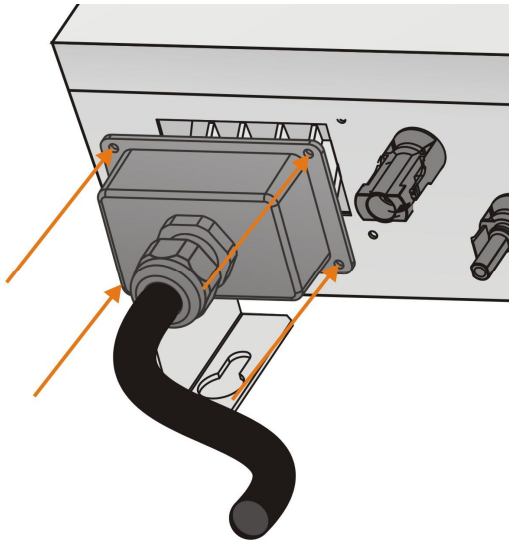

Figure 5
Step 4: Fasten the AC output water-proof cover securely, as shown in Figure 5.